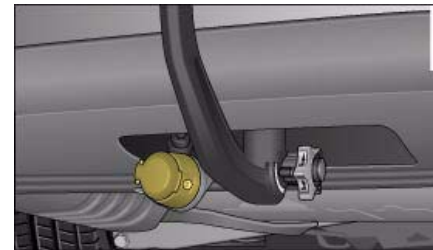

Fig. 213 Area below rear bumper: Electrical socket for trailer
- The cable of the towing bracket can be connected to the socket => *page 214*, fig. 213.